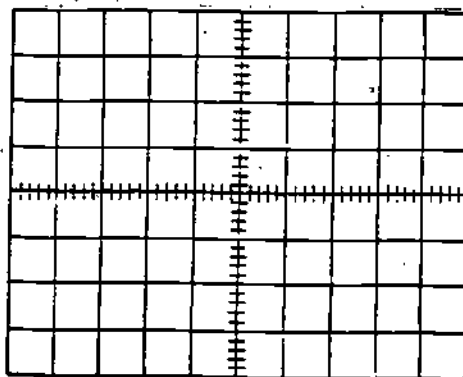

Figure 2
11. Using the oscilloscope in the "DC" position, observe and record in Figure 2 the voltage between the top of R1-5 and circuit common.